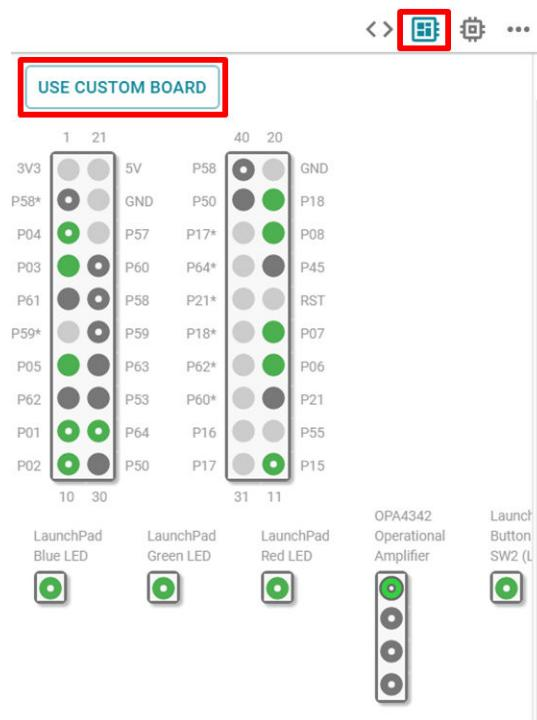

Figure 2-3. sysconfig Custom Board
2. In radiotool.sysconfig, navigate to the board view and select the option to “use custom board” as shown in Figure 2-3.